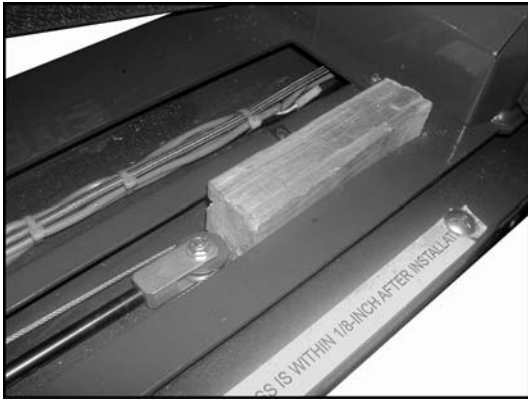

FIGURE 5
5. Refer to **FIGURE 5 and 6**. Deploy platform. Note slack in cable.